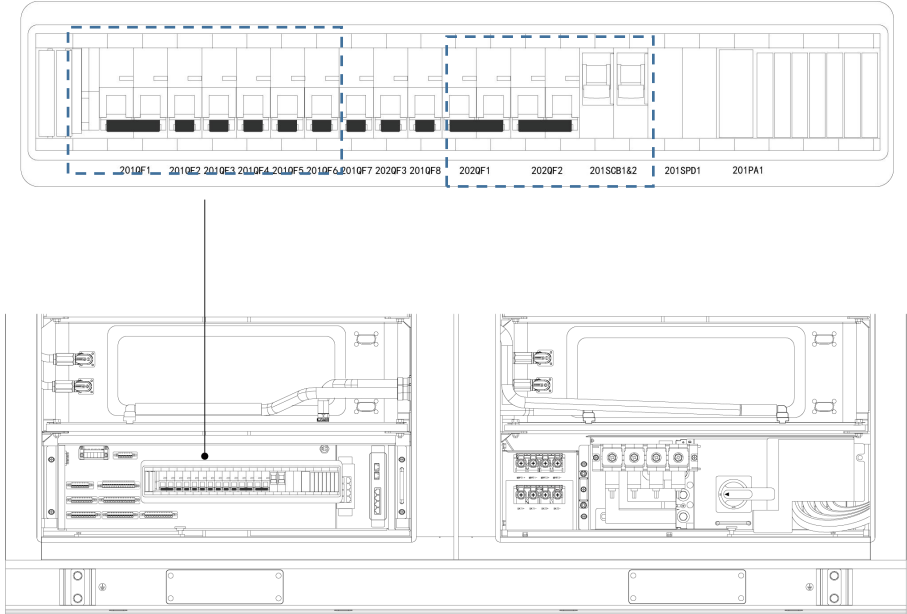
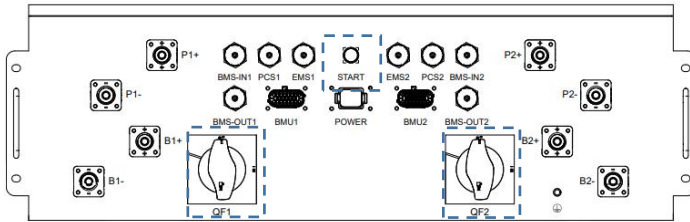

Figure.2
Figure.3
See the Figure.2.
- ② Attach to auxiliary power and external UPS. See the “How to position terminals related?”in the section 4.2.1. Verify that both the external AC auxiliary power input and the external UPS AC input voltages are within their specified normal ranges by utilizing a multi-meter.
- ③ Turn on the AC auxiliary power supply breaker **201QF1** and AC UPS breaker **202QF1**. See the Figure.2.
- ④ Turn on the lead-acid battery breaker **202QF3** and perform a vision inspection for the ring network switch by indicators' lighting up.
- ⑤ Turn on the PV power breaker **201QF2** after ensuring the voltage level of the external photovoltaic loop is within the normal range by utilizing a multi-meter. See the Figure.2.
- ⑥ Turn on the liquid cooling system breaker **201QF3**, DC auxiliary power breaker **201QF4**, fan breaker **201QF5** and dehumidifier breaker **201QF6**. See the Figure.2.
- ⑦ Press the **START** button, turn on the BAT MCCB **QF2** and **QF1** on the DC PDU. See the Figure.3. Measure the 24V DC voltage at the input of 202QF2, and verify the high-voltage box, battery pack power supply, and communication status. If all are normal, turn the DC auxiliary power breaker **202QF2**. See the Figure.2.